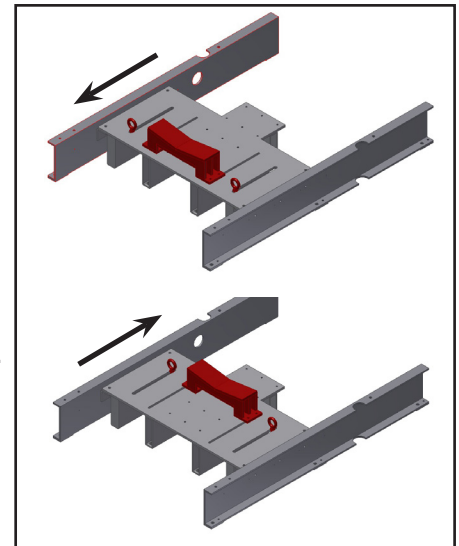

Figure 9
1. To set the cut off depth of the Anvil and the Eyebolts, loosen the 130GN Hex Bolts from the Anvil and the 171K Nuts from the Eyebolts, slide the Anvil and Eyebolts into position (Figure 9). The tube sheet should be centralized on the Anvil with the curved face of the sheet having maximum contact with the Anvil. **NOTE:** Ensure tube sheet is not tilted forward or backward while resting on the Anvil.